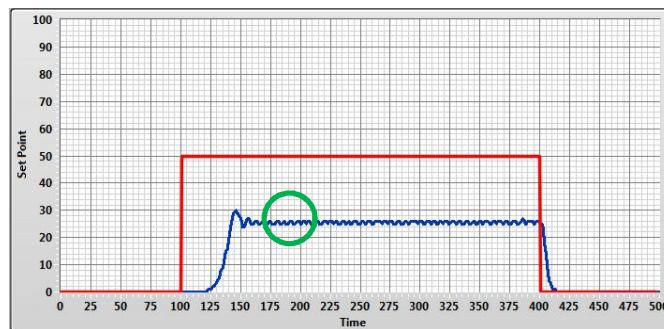

Fig. 16 – Oscillating System
- 4) Increase the  $K_p = K_{osc}$  gain until the system starts oscillating. In fig. 16 the red line is the reference and the blue line is the transducer voltage value.